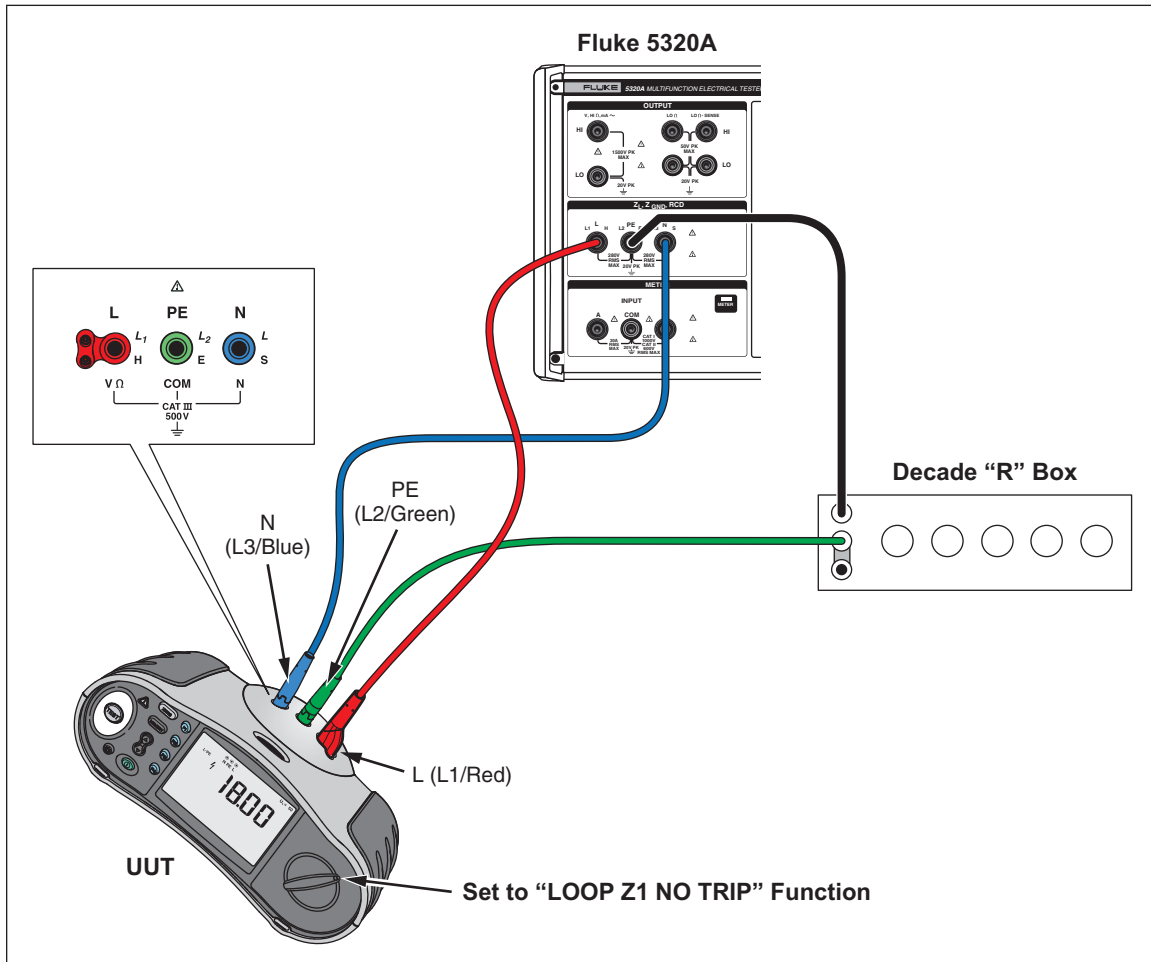

Figure 7. LOOP Z₁ NO TRIP Test
1. Connect the test leads to the UUT, Decade R Box, and 5320A, as shown in Figure 7.
Before performing the following test, remove the Decade R Box used in Figure 7. Failure to do so will result in damage to the decade resistors. Setting the function switch to the LOOP Z HI CURRENT function, or selecting L-N test with (F1), will result in damage to the Decade Resistor Box when (TEST) is performed.